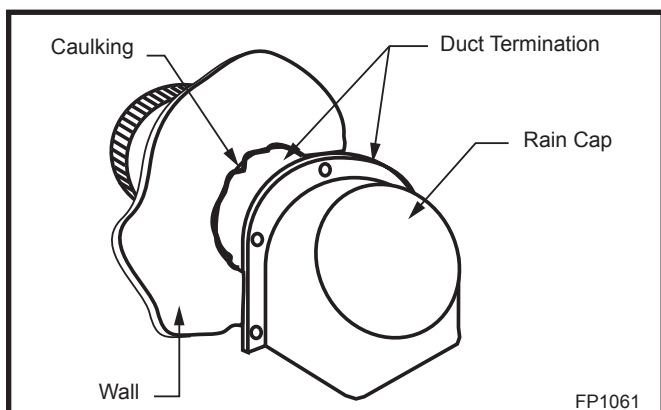

Fig. 15 Caulk and install duct termination/rain cap in place.
- Attach the inlet collar with four (4) #10 screws to the side near the bottom of the fireplace. Slide the duct over the collar and attach the duct to the collar using the plastic tie straps or three (3) screws (screws not provided). Continue attaching the ducting together using three (3) screws at each joint until you have installed sufficient duct to arrive at your duct termination location.
- At the termination end, install the duct termination. This should be installed from the outside of the home. Cut a hole in the desired location approximately 4½" in (114 mm) diameter, caulk around the hole, and slide the termination through the opening from outside the home. The termination/rain cap should be caulked around its perimeter to assure a tight seal. The rain cap opening should be positioned downward. (Fig. 15)